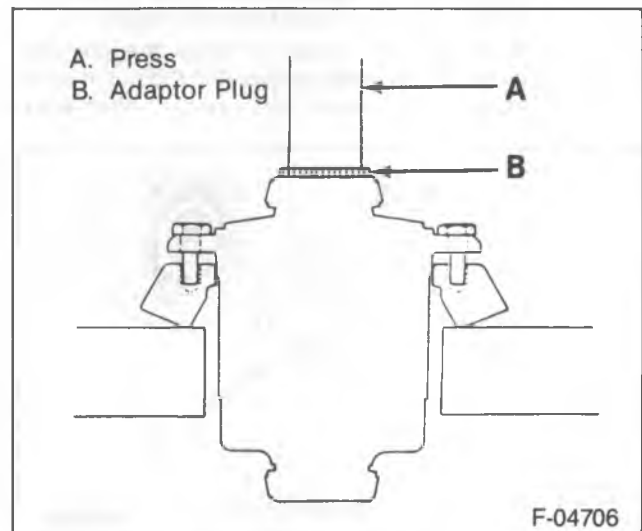

Figure 18—Installing the Ring Gear to the Case
- Press the ring gear onto the case far enough to start the bolts using J 8107-4 to protect the differential from the press ram (figure 18).
6. New ring gear bolts (23).